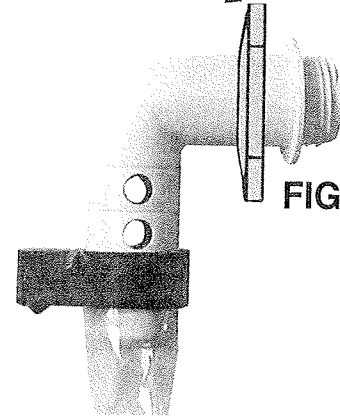

FIGURE 7
- B. Remove the slip-nut holding the "eyeball" in place from the inlet nearest the shallow end. Remove the directional eyeball. Insert the Elbow Hose Connector (16) through the slip-nut. This is your inlet adapter. (Figure 7)